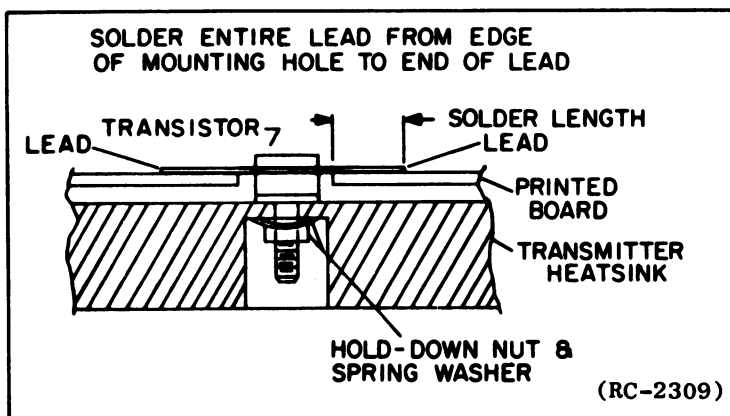

Figure 2 - Transistor Mounting
6. Make sure that the transistor is mounted as shown in Figure 2 so that the leads can be soldered to the printed circuit pattern, starting from the inner edge of the mounting hole.